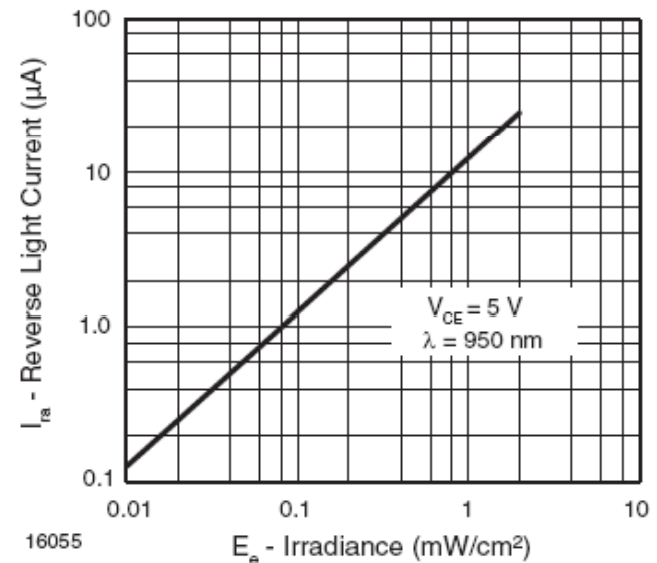

Fig. 3 - Reverse Light Current vs. Irradiance
16. Figure 3–71 is a curve of reverse voltage versus capacitance for a certain varactor. Determine the change in capacitance if  $V_R$  varies from 5 V to 20 V.
▶ FIGURE 3–71
20. The LED in Figure 3–73(a) has a light-producing characteristic as shown in part (b). Neglecting the forward voltage drop of the LED, determine the amount of radiant (light) power produced in mW.
21. Determine how to connect the seven-segment display in Figure 3–74 to display “5.” The maximum continuous forward current for each LED is 30 mA and a +5 V dc source is to be used.
▶ FIGURE 3–74
▶ FIGURE 3–73